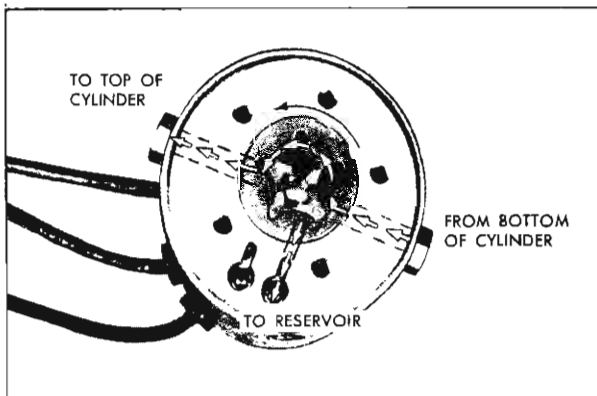

Fig. 21-64 Pump Operation—Lower Top
2. Lowering the Top. When the green motor lead is energized the motor drive shaft turns the rotors counter-clockwise as indicated by the large arrow in Fig. 21-64. The action of the pump rotors forces the fluid under pressure to the top of each cylinder. This action causes the fluid below the piston in each cylinder to be forced into the pump which recirculates the fluid to the top of each cylinder. The surplus hydraulic fluid due to piston rod displacement flows into the reservoir.